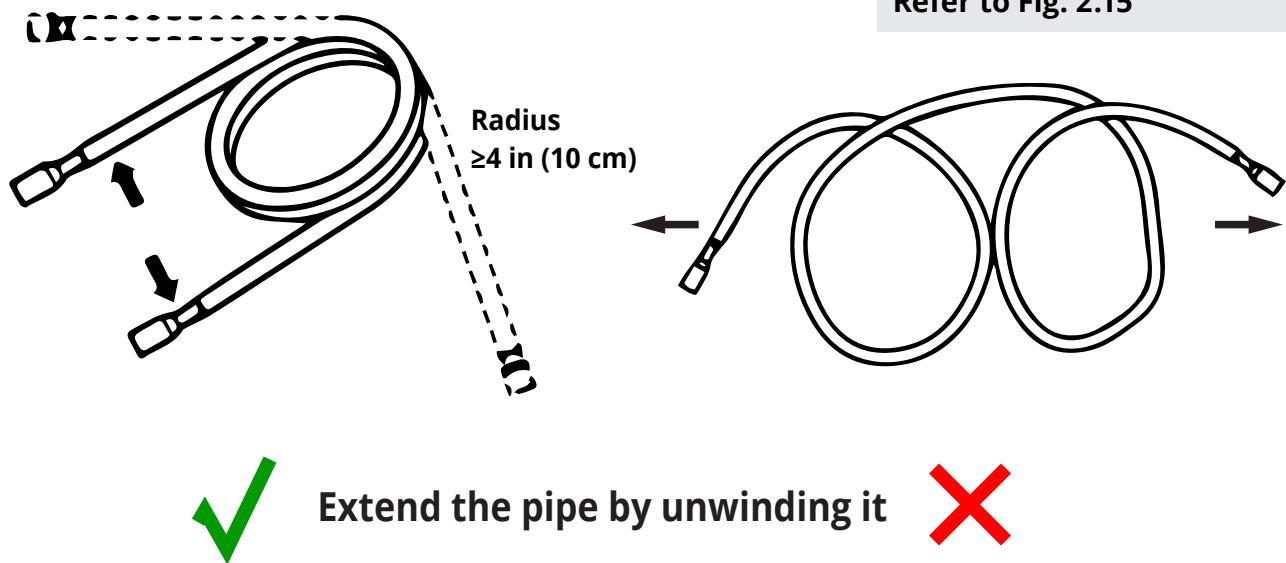

Fig. 2.15
Please refer to Fig. 2.15
5. Unroll and route the **LINE SET** between the **AIR HANDLER** and the **DC INVERTER**. Bend the line set by hand to route the line set to suit your application. Use care when bending the line set piping. Please refer to **Fig. 2.15 on Pg. 19** for more detailed instructions on how to properly and safely bend refrigerant piping, as well as the correct bend radius.